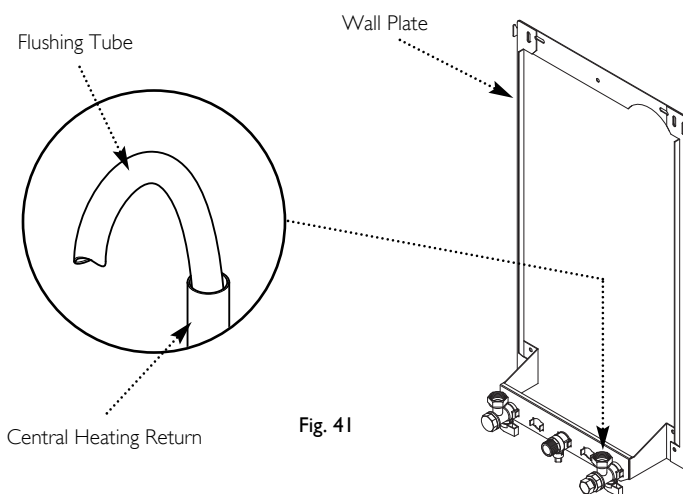

Fig. 41
1. Connect a tube to the central heating flow or return pipe (Fig. 41).